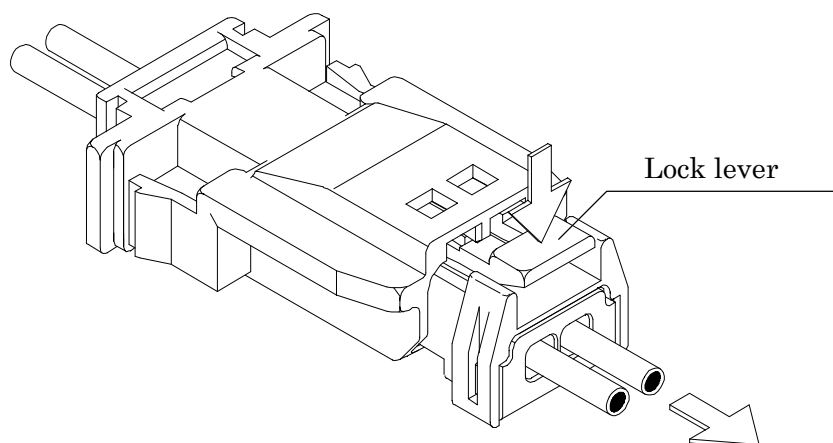

Fig.6-2 Connector separation
3. Insert a withdrawing tool into a tool cavity, as following Fig.6-2 and Fig.6-3.